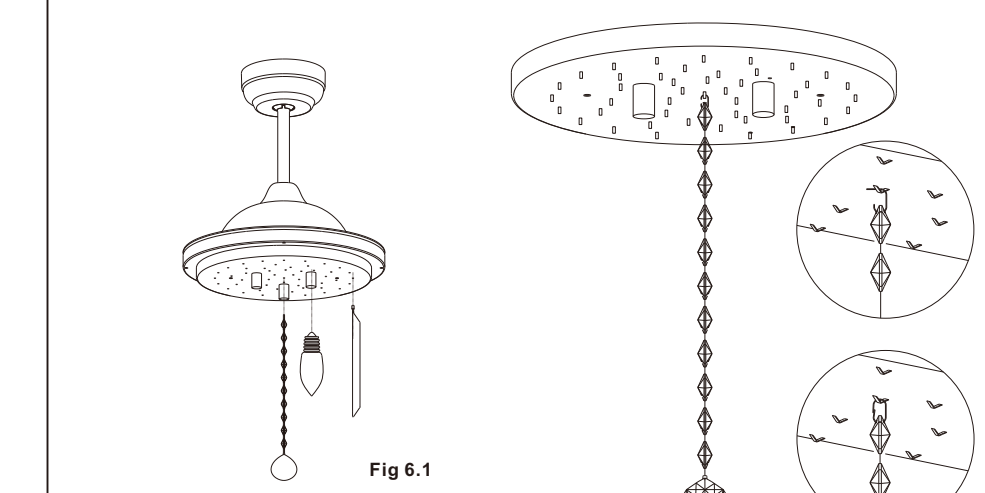

Fig 6.1
- Hang carefully all the crystals as shown Fig6.1. (crystal chains, multi-faceted crystal balls, and crystal baguettes). It is recommend to wear gloves when installing gloves to avoid amudges.